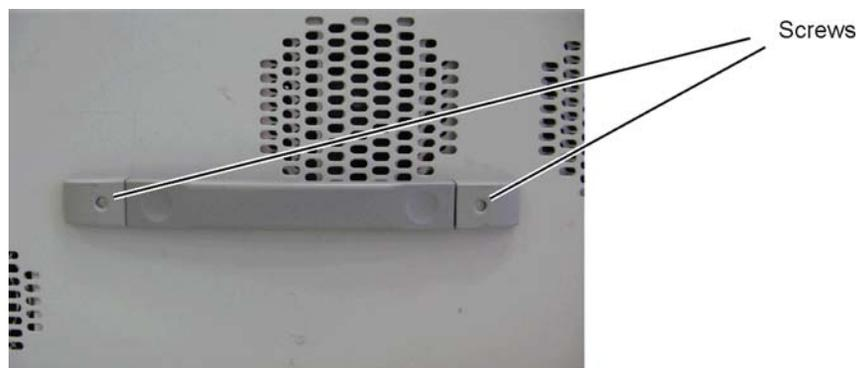

Figure 6-3. Removing the Side Handles
Remove the two T-15 screws that secure each handle to the sides of the instrument, as shown in Figure 6-3.
- 5 Turn the instrument upside down on the bench. Remove the calibration sticker that covers the access plug on the bottom of the instrument. See Figure 6-3.